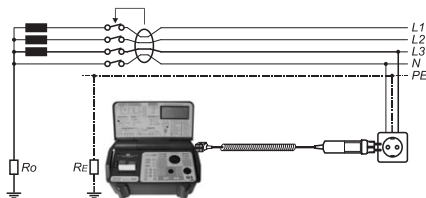

figure 6.11.1 Connection test lead
- ▶ Select the nominal fault current of the RCD (depending on the RCD to be tested) using the rotary switch "RCD nominal residual current" (5). It is of no importance, whether the rotary switch is in (x1) or (x5) position.
- ▶ Select the type of the RCD to be tested using the "" key (4). Selection can be made between standard RCDs or time delayed RCDs. After having chosen 'selective RCD',  is displayed on the LCD.
- ▶ Connect the test leads to instrument, measurement connectors (17).
- ▶ Connect the test leads with object see figure 6.11.1 or 6.11.2.
- ▶ Set the nominal RCD fault current (depending on the RCD to be tested) using the rotary switch "RCD nominal residual current" (5). Selection should also be made of the trip current factor (x1) or (x5) by positioning the rotary switch to e.g. 30mA x5.
- ▶ Select the type of the RCD to be tested using the " " key (4). Selection can be made between standard RCDs or time delayed RCDs. After having chosen 'time delayed RCD', "S" is displayed on the LCD.
- ▶ Connect the test leads with object see figure 6.11.1 or 6.11.2, page 40.
- ▶ Briefly press the key 'START' (2), the measurement will start.
- ▶ The "DISPLAY" key (30) is used to alternate between the trip time (tRCD) display and the contact voltage (Vc).
- ▶ If desired, repeat the test at negative half-wave. The phase position of the test current can be chosen by pressing the "START" key (2) twice. "180°" is displayed on the screen.
- ▶ Switch on UNITEST EURO-EXPERT plus via key "ON/OFF" (9).
- ▶ Set the measurement range switch (1) to function 'I  or .
- ▶ Press the "START" key (2) the measurement is started. The test current is displayed on the LCD and is steadily increased until RCD trips.
- ▶ The "DISPLAY" key (30) is used to alternate between the display of the trip current (I_{Δ}), the trip time ($t(I_{\Delta})$), and the contact voltage ($V_C(I_{\Delta})$).
- ▶ If desired, repeat the test at negative half-wave. The phase position of the test current can be chosen by pressing the "START" key (2) twice. "180°" is displayed on the LCD.
- ▶ Switch on UNITEST EURO-EXPERT plus via switch "ON/OFF" (9).
- ▶ Set the measurement range-switch (1) to function 'RCD-ANALYSIS' (6).
- ▶ For the display of the preset value of the contact voltage set the rotary switch "RCD nominal residual current (5) on "VC(25/50 V)". The contact voltage will be shown on the display. In order to change the contact voltage limit use the keys  or .
- ▶ Turn the rotary dial to "Nominal trip current" (5) to set the nominal trip current of the RCD (depending on the RCD to be tested). It is of no importance whether the dial is set to position (x1) or (x5)..
- ▶ Connect the test leads with object see figure 6.11.1 oder 6.11.2.
- ▶ The "DISPLAY" key (30) is used to alternate between the previous test steps number, the trip time, and the contact voltage.